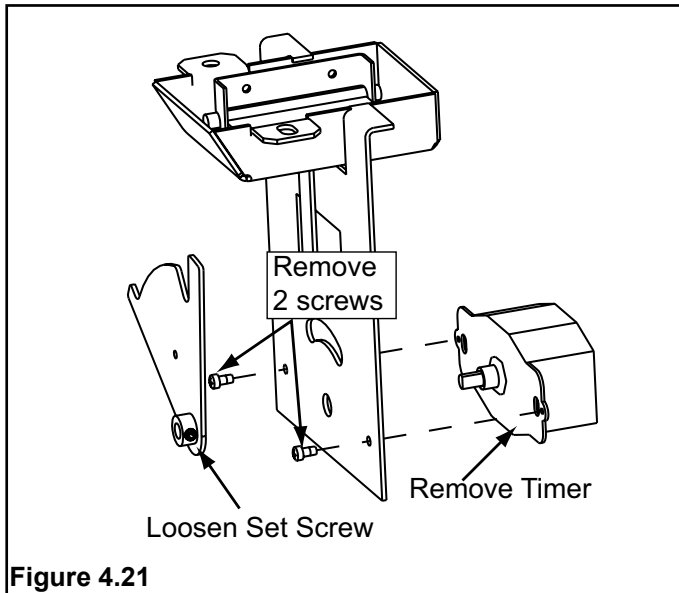

Figure 4.21
- Loosen set screw on timer, remove 2 screws and remove timer. See Figure 4.21